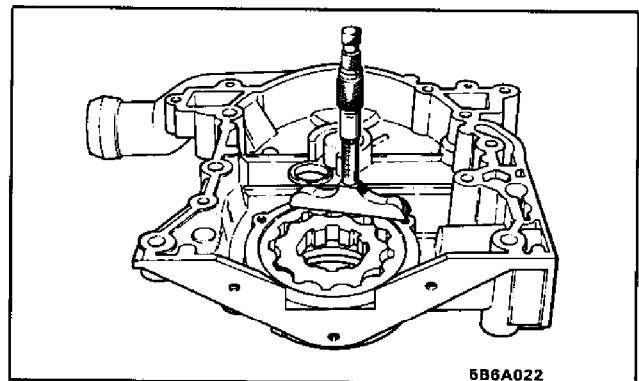

Figure 34 Measuring Gear End Clearance (Gear Drop In Housing)
- Gear end clearance (gear drop in housing) .025 - .089 mm (.001 - .0035). See Figure 34.